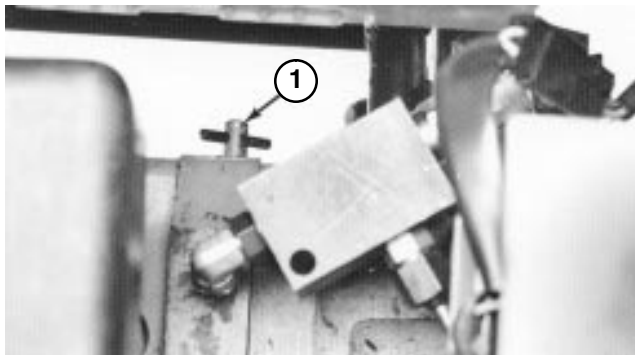

Figure 33
1. Reach under traction unit and rotate by-pass valve (Fig. 33) 1/2 to 1 turn counterclockwise. Opening the valve opens an internal passage in the transmission, thereby by-passing transmission oil. Because fluid is by-passed, traction unit can be moved without damaging the transmission.